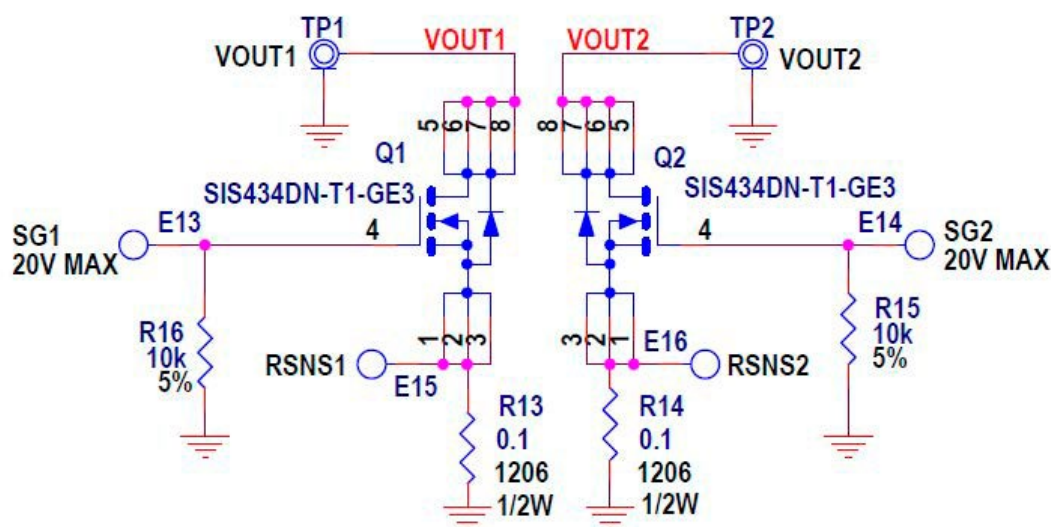

Figure 3. Optional Transient Response Circuit
16. Adjust a signal generator with a 10ms period, 10% duty cycle and an amplitude from 1V to 2V to start. Measure the RSNSx voltage to observe the current,  $V_{RSNSx}/100m\Omega$ . Adjust the amplitude of the pulse to provide the desired transient. Adjust the rising and falling edge of the pulse to provide the desired ramp rate. Refer to the following equations, the LTC3315A DC3123A transient plots and Figure 3.